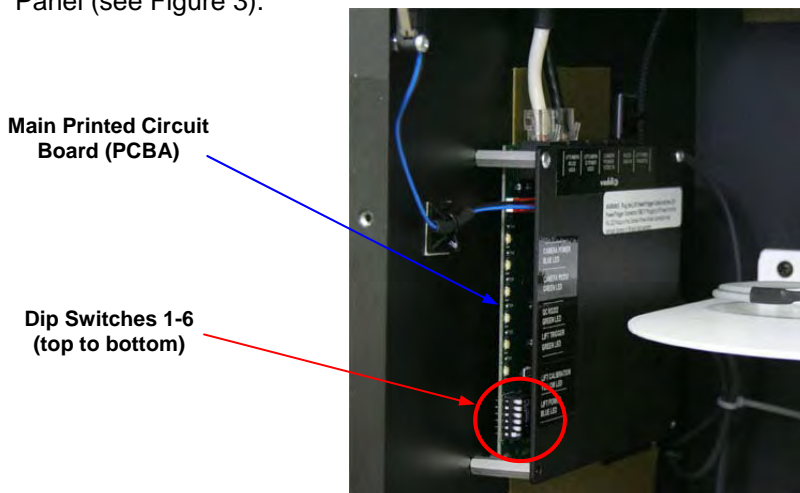
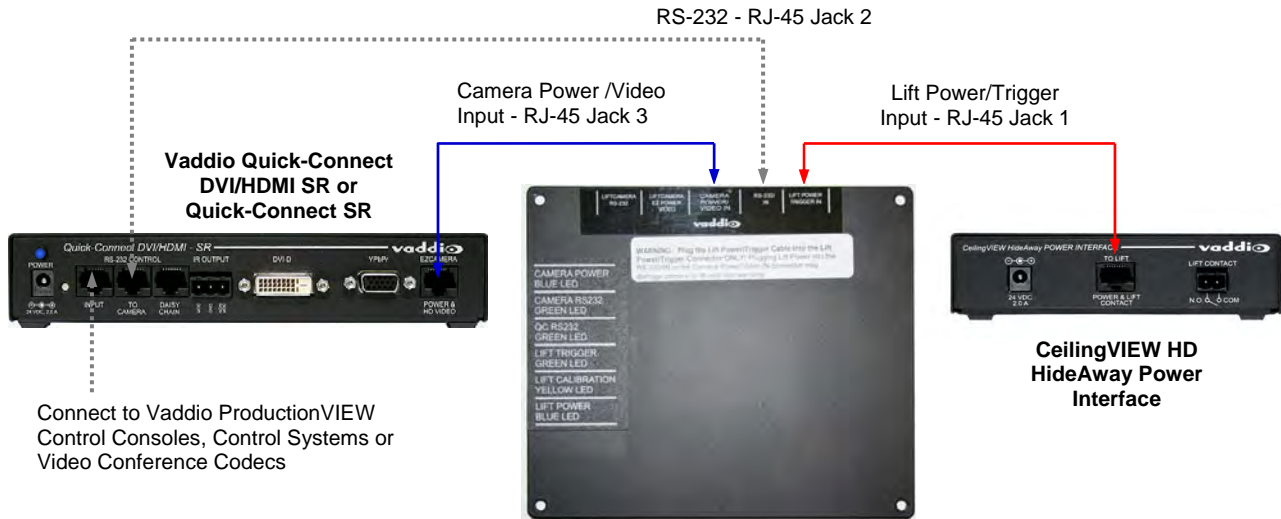

Figure 3: Location of dip switches on the main printed circuit board assembly (PCBA)
Figure 18: Location of RJ-45 jacks on the Main Circuit Board/Security Cover Labeling
The Main Printed Circuit Board (PCBA) is located on the left inside panel of the CeilingVIEW HD HideAway. The Dip Switches are located on the lower side of the board and faces the Front Access Panel (see Figure 3).
****CeilingVIEW HD HideAway IR Settings:** The dip switches are vertically mounted on the Main Circuit Board (PCBA). The switches are set to the Right or Left (see Figure 3).
B. All three (3) Cat-5e cables connect to the Main Printed Circuit Board (PCBA) located on the inside left of the CeilingVIEW HD HideAway Motorized Back Box Assembly (see Figure 3). Note: The three (3) RJ-45 jacks are located at the top right corner of the Main Circuit Board (see Figure 18).